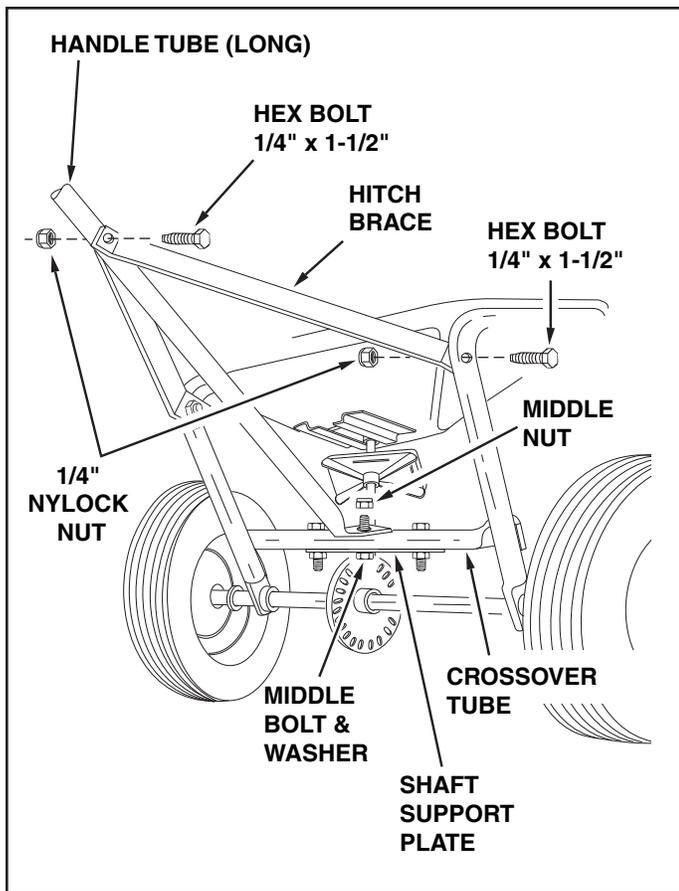

FIGURE 5
9. Assemble two handle braces to the inside of the hopper frame, one on each side, using two 1/4" x 1-1/2" hex bolts and two 1/4" nylock nuts. See figure 5. **Do not tighten at this time.**
10. Assemble the other end of the two handle braces to the long handle tube using a 1/4" x 1-1/2" hex bolt and 1/4" nylock nut. **Do not tighten at this time.** See figure 5.
11. **Tighten** all hex lock nuts and bolts in same sequence as assembled in steps 9 through 11. See figure 5.